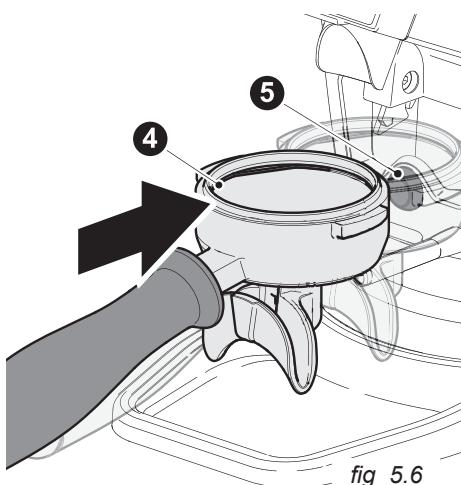

fig. 5.6
- Start grinding by pressing the start button (5) with the filter holder (4 – fig. 5.6).